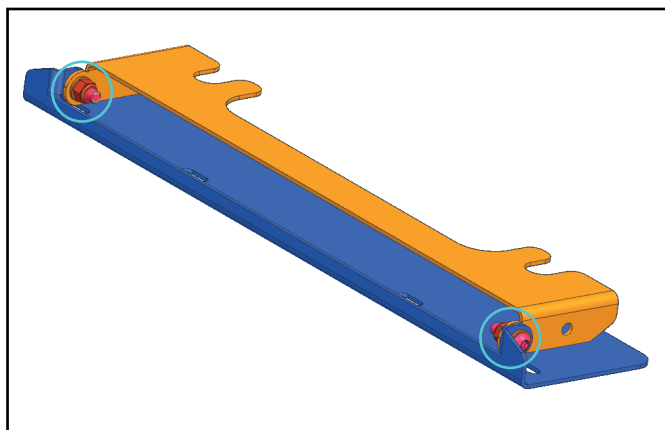

Fig. 54
53. Unscrew the hardware and disassemble license plate bracket (item 16) as shown in fig.54,55.
58. Connect terminal “-” on the battery (fig.54).